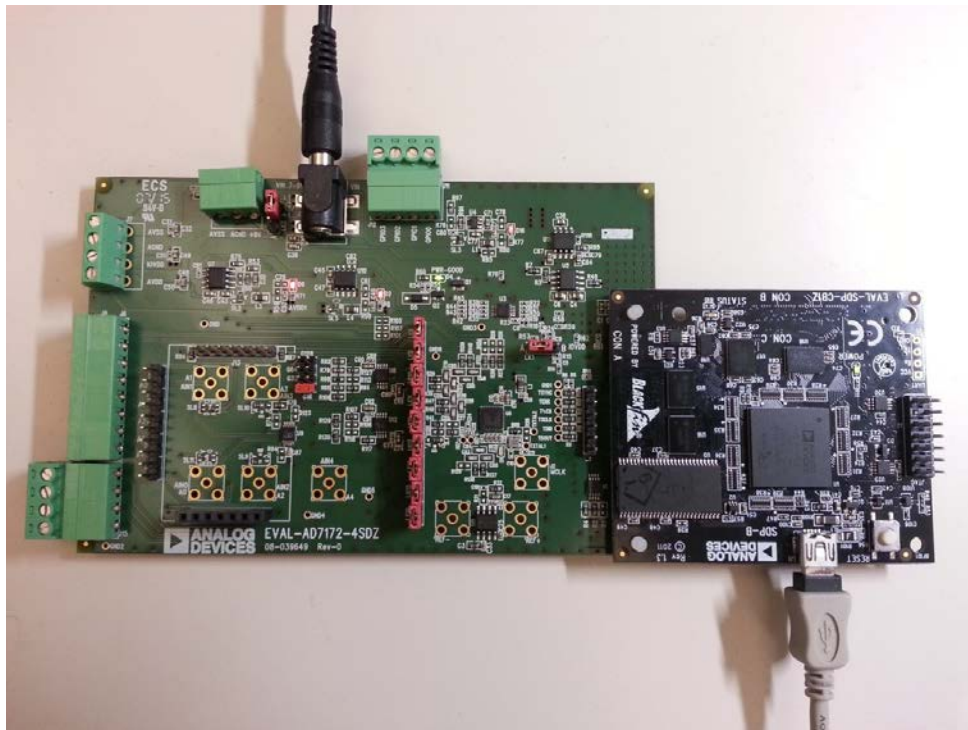

Figure 2. Hardware Configuration, Setting Up the EVAL-AD7172-4SDZ
3. Connect the EVAL-SDP-CB1Z board to the EVAL-AD7172-4SDZ board, as shown in Figure 2.
5. Connect the external 9 V power supply to the J5 connector of the EVAL-AD7172-4SDZ board, as shown in Figure 2. Set LK2 to Position B.